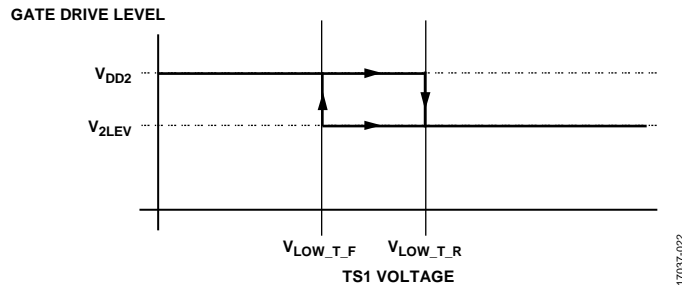

Figure 22. Low Temperature Operation
A low temperature operation mode is available if the voltage sensed on the TS1 pin is greater than 2.4 V (typical), the maximum gate voltage is set to the two-level plateau voltage of 11.89 V (typical). Hysteresis allows continued low temperature operation until the TS1 pin voltage goes below 2.36 V (typical). Low temperature operation can be enabled or disabled in the EEPROM settings in the LOW\_T\_OP bit, Address 01, Bit 12. Basic operation is shown in Figure 22. During a two-level drive, the RDS(ON) resistances of the turn on and turn off drivers are increased to approximately 4 times the normal turn on and turn off resistances.